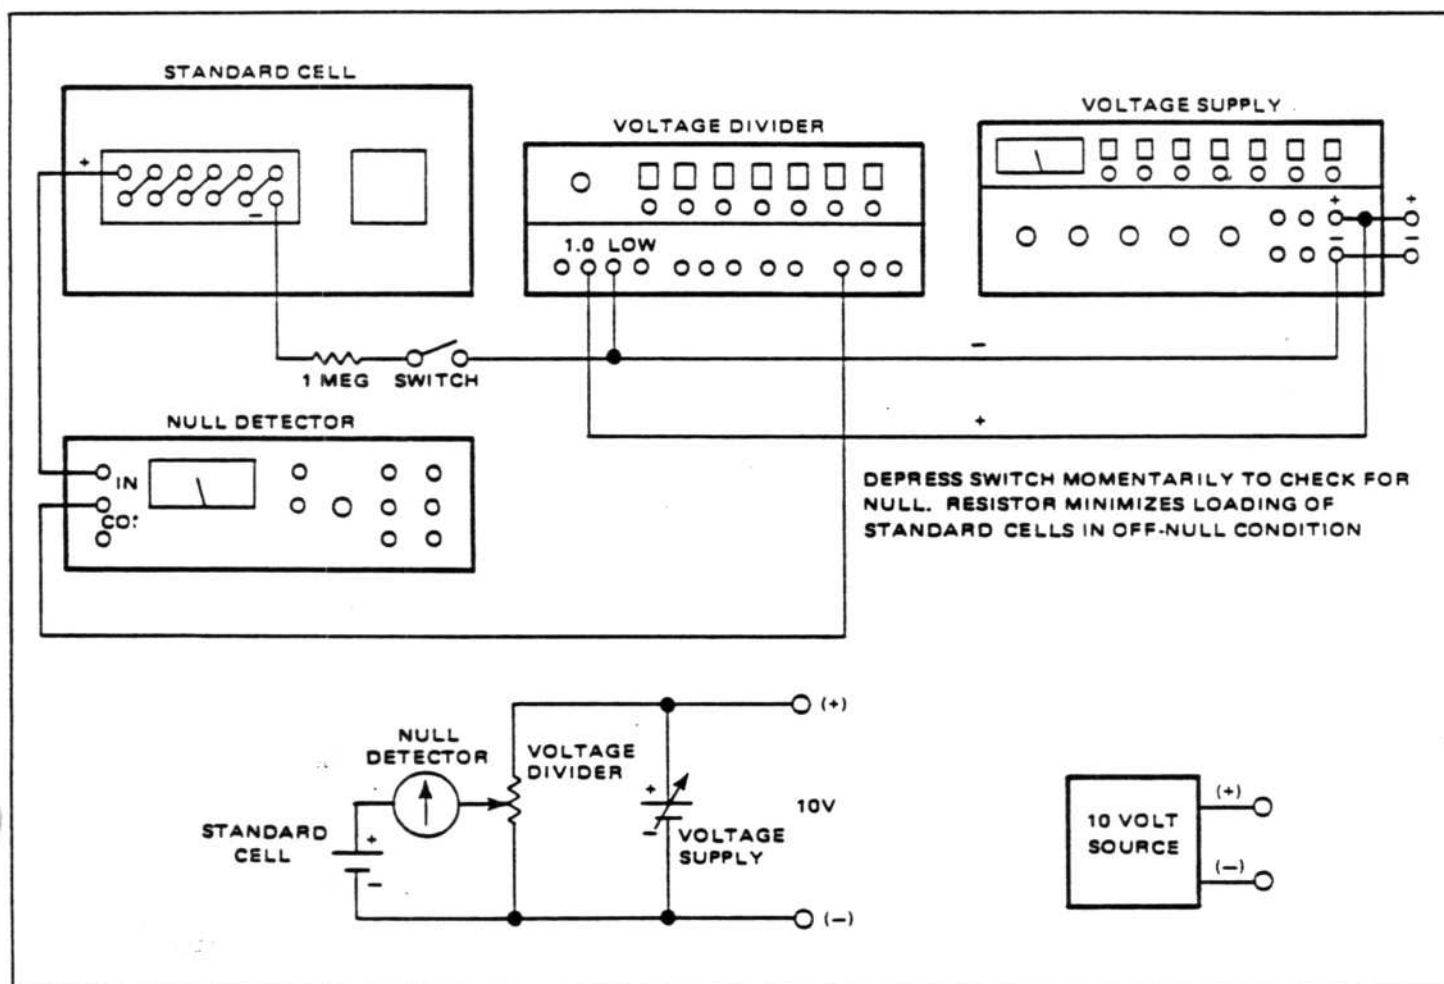

Figure 5.1 - 10 Volt Source
5.2.3.1 To produce voltage levels of necessary accuracy, special techniques are required. Suitable methods of generating these voltages are shown in Figure 5.1, Tables 5.2 and 5.3. A precise and traceable source of 10 volts is required not only for calibrating the 10 volt range, but also as a reference for generating highly accurate .1, 1, 100 and 1000 volt levels. The 10 volt source used must
5.2.3.2 A source filling these requirements is shown in Figure 5.1. This circuit consists of null detector, 7-decade voltage divider, a DC voltage supply, and a bank of saturated standard cells. Two advantages of this particular hookup are that; (a) there is minimal loading of the standard cells and (b) stability, not accuracy, is the primary requirement of the DC voltage supply. The output of this circuit is set to a precise 10 volts by setting the voltage divider to the value of the standard cells. The DC voltage supply is then adjusted to produce a null on the null detector. The accuracy of the 10 volt source is within ± 10 ppm. The remainder of the DC sources can be generated by the circuits shown in Table 5.4 and 5.5. Each of these hookups use a calibrated 10 volt source having the characteristics of the one previously described.